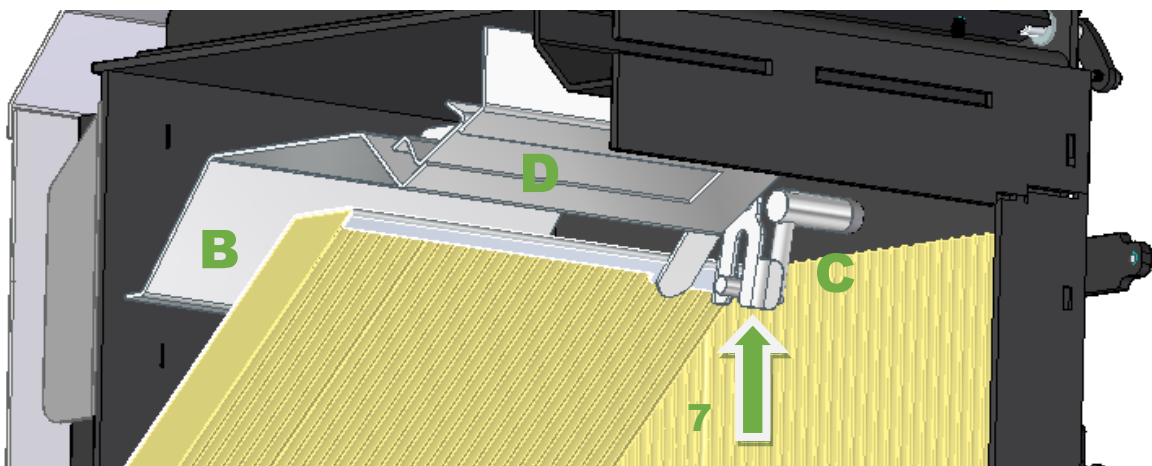

Figure 38 – Fitting of the smoke circuit system
3. To reinstall the smoke circuit, repeat all the procedures in reverse order. Note that the damper shaft (C) is placed in the groove in the smoke channel (B). To check that the smoke channel is installed correctly, pull the damper and check that the damper flap (D) moves, see Figure 38.
a. Remove the bottom flap by loosening the side screws and then remove the bottom front cover by also loosening the screws, see Figure 38.